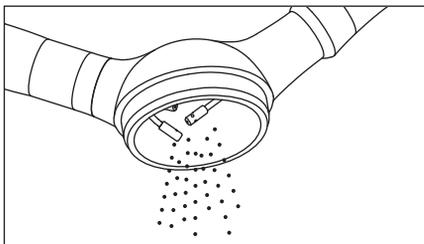

Fig. 11
- 1) Open the powder case cap, and remove the remaining cleaning powder. (Fig. 11)